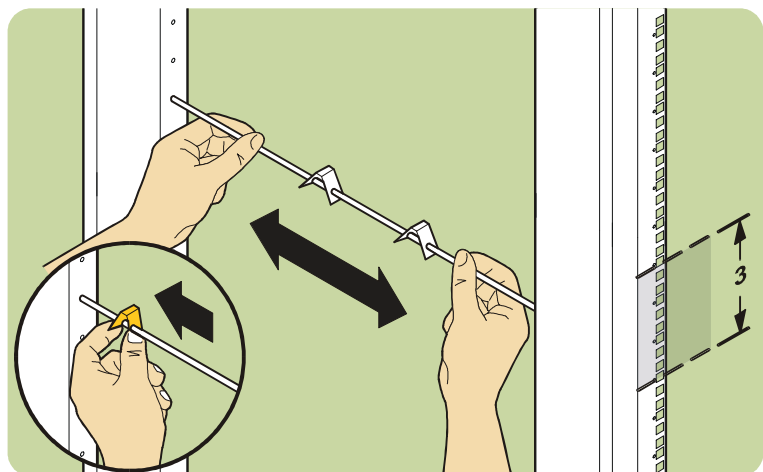

Fig. 33. Installing locating rods in Compaq 9000
5. Insert one end of a locating rod in the marked hole, and the other end in the corresponding hole on the rear column (see Fig. 33).